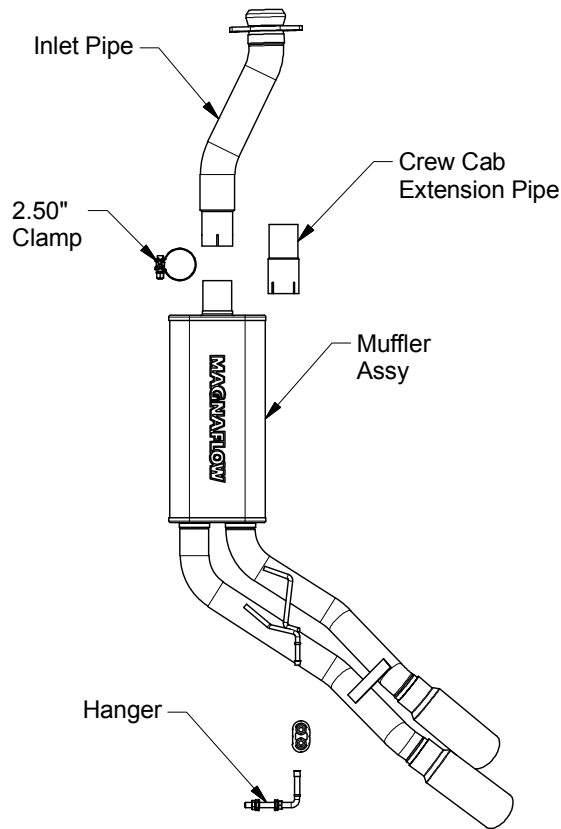

Fig 1.
**Step 2:** Install the new inlet pipe using the OEM fasteners. If you have a Crew Cab truck install the Extension Pipe using the supplied 2.50" Clamp. Install the threaded hanger and rubber insulator as shown in Fig 1, then Install the Muffer Assembly fitting the welded hangers into the rubber insulator and fasten it to the inlet pipe using the supplied 2.50" clamp. Leave all clamps and fasteners loose for final adjustment of the complete system. .